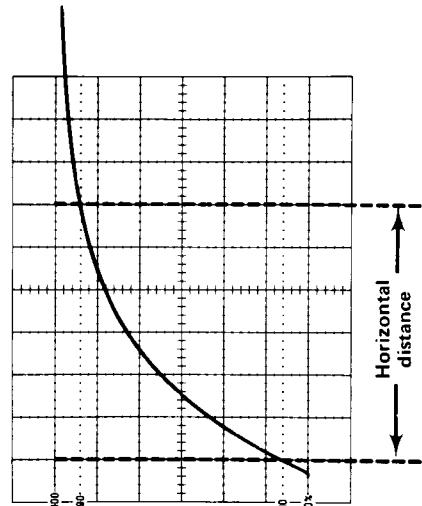

Fig. 5. Measuring risetime.
7. Adjust the horizontal POSITION control to move the 10% point of the waveform to the second vertical line of the graticule (see Fig. 5).
- Example.** Assume that the horizontal distance between the 10% and 90% points is six divisions (see Fig. 5) and the TIME/DIV switch is set to $1 \mu\text{s}$.